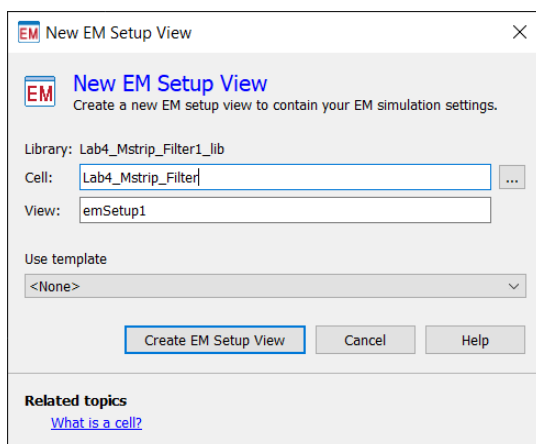

Figure 10. How to Save EM Setup View
3. In the box that appears, name the New EM Setup View **emSetup** and click the button that says **Create EM Setup View**. This is shown in Figure 10.